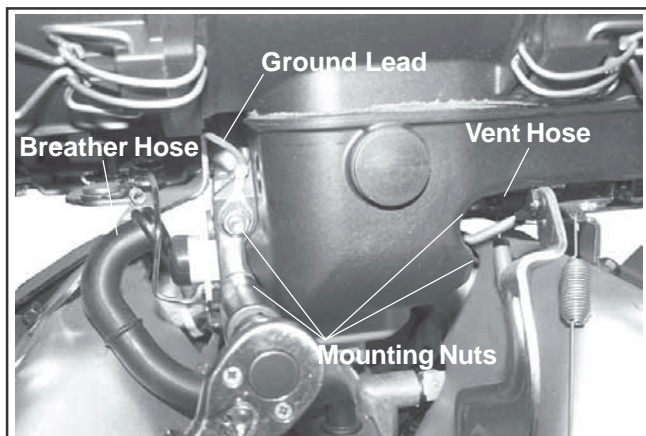
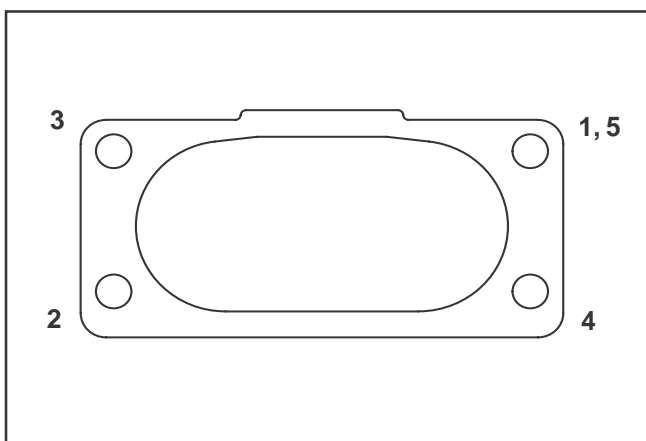

Figure 10-96. Mounting Air Cleaner and Hoses.
Figure 10-98. Torque Sequence for Air Cleaner Mounting Nuts.
4. Slide the air cleaner assembly onto the four carburetor mounting studs. Align the two forward mounting holes in the base with the mounting holes/bosses of the intake manifold and control bracket. Attach the ground lead under the hex nut as originally installed. Install the remaining three hex nuts and start the two hex flange screws. Install the rear mounting screws into the valley baffle/cylinder head. Check the positions of all parts then torque the four hex flange nuts to **7.9 N·m (70 in. lb.)** in the sequence shown (Figure 10-98), and the four hex flange screws to **9.9 N·m (88 in. lb.)**. See Figures 10-96, 10-97, and 10-98.